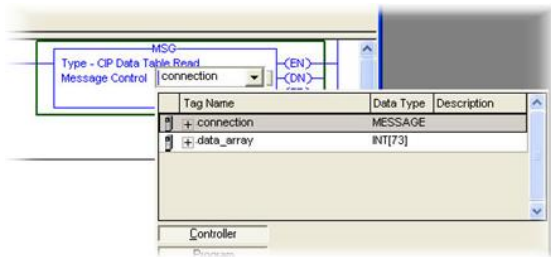

Figure 53: MSG Instruction Tag Assignment
- a) Edit the "Message Control" field on the MSG instruction to use the previously-created "connection" tag. Refer to Figure 53.